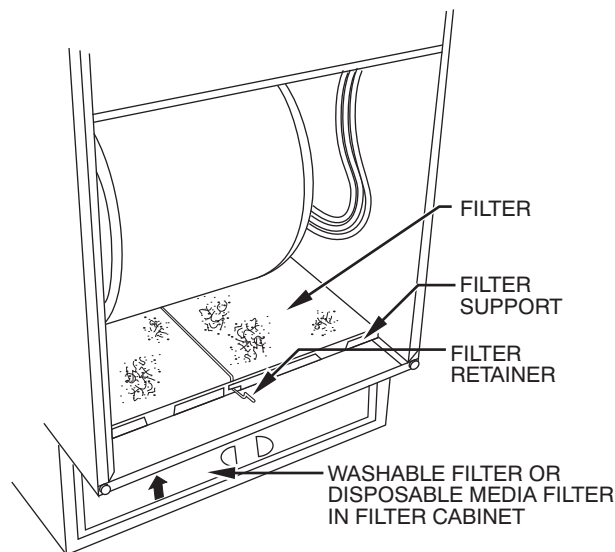

Fig. 3 - Bottom Filter Arrangement
3. Release filter retainer wire. (See Fig. 3 or 4.)
**NOTE:** Filters shown in Fig. 3 and 4 can be in furnace blower compartment or in filter cabinet, but not in both.